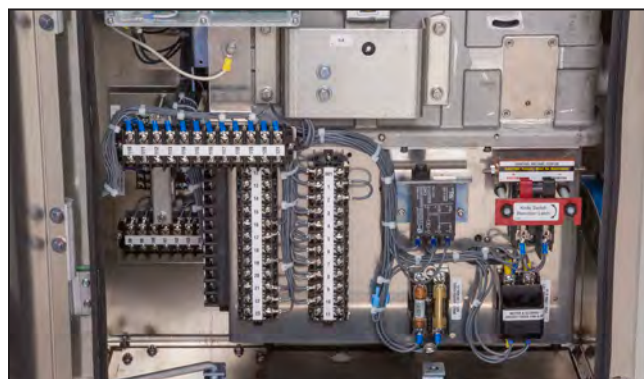

Figure 22. The motor-and-closing circuit fuse holders and the control-source knife switch.
- Correct polarity has been observed on dc-control-voltage models (See Figure 22)
STEP 5. Insert the motor-and-closing circuit fuse holder. Then, close the control power KNIFE switch. See Figure 22.